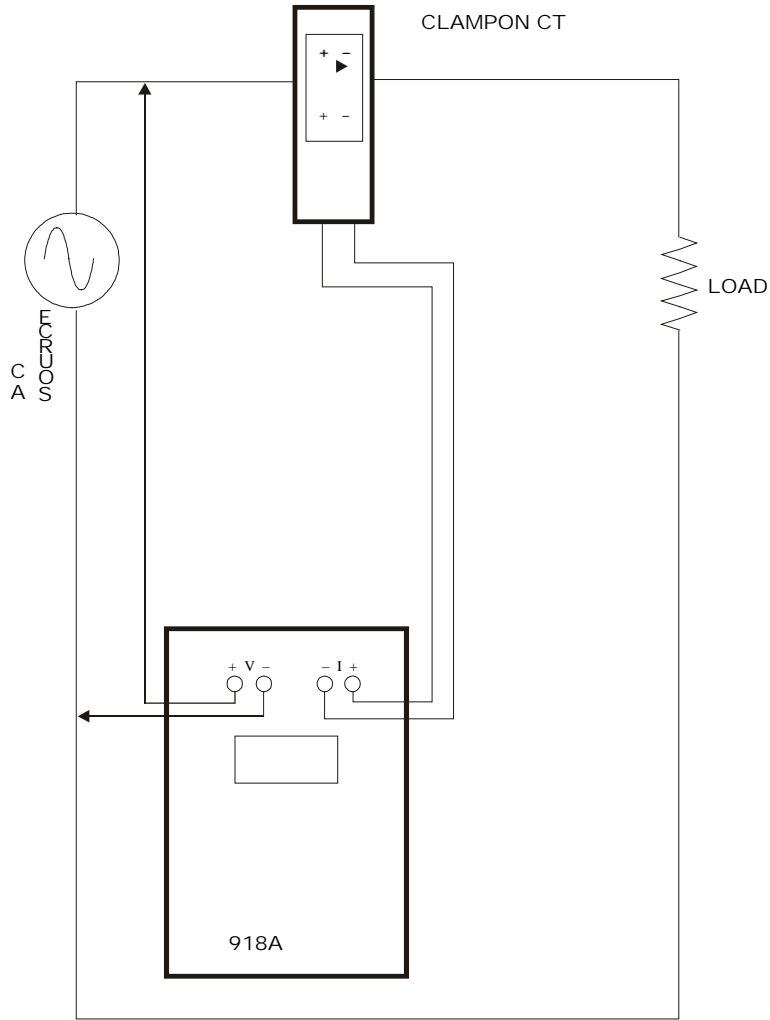

Figure 3 – Current Transformer Orientation
2. Connect the output of the clamp-on current transformer (CT) to the current input of the 918B, using the supplied cable. Be sure that the (+) and (-) terminals on the CT correspond directly to the (+) and (-) terminals of the 918B current input.
4. If a current flowing in the same direction as the arrow is exactly in phase with a voltage present on the (+) voltage lead (with respect to the (-) voltage lead), the var value displayed on the 918B will be zero. Figure 3 illustrates the relationship between voltage lead polarity and current transformer orientation.
4. If a current flowing in the same direction as the arrow is exactly in phase with a voltage present on the (+) voltage lead (with respect to the (-) voltage lead), the watts value displayed on the 918B will be maximum. Figure 3 illustrates the relationship between voltage lead polarity and current transformer orientation.
4. If a current flowing in the same direction as the arrow is exactly in phase with a voltage present on the (+) voltage lead (with respect to the (-) voltage lead), the power factor value displayed on the 918B will be +1.000. Figure 3 illustrates the relationship between voltage lead polarity and current transformer orientation.
1. Switch the instrument to the phase mode by pressing "PHASE". Connect the output of the clamp-on current transformer (CT) to the current input of the 918B, using the supplied cable.
3. Note the (+) and (-) symbols and the arrow, indicating the phase relationship between the CT input and the CT output. If a current flowing in the same direction as the arrow is exactly in phase with a voltage present on the (+) voltage lead (with respect to the (-) voltage lead), the phase value displayed on the 918B will be zero. Figure 3 illustrates the relationship between voltage lead polarity and current transformer orientation.